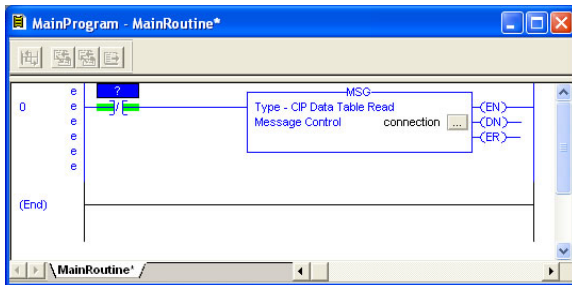

Figure 101: MainRoutine
- e) Click “OK” to close the MSG Configuration dialog. At this stage, MainRoutine should look like Figure 101.